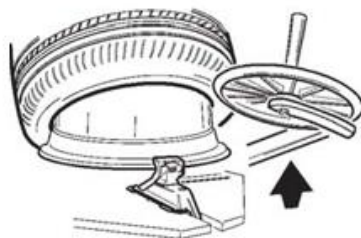
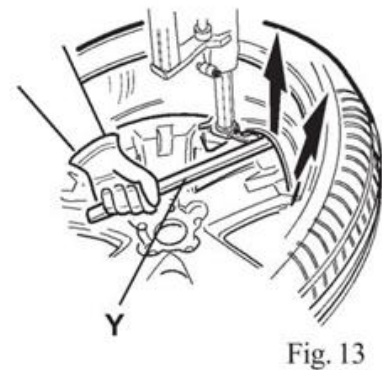

Fig. 12
Fig. 13
- Follow standard proceedings for tyre final removal and use the bead-lifting disks for keeping the tyre at the same level of rim's groove (fig. 12). This will facilitate tyre beading positioning on the tool by means of the bead-lifting (fig. 13).